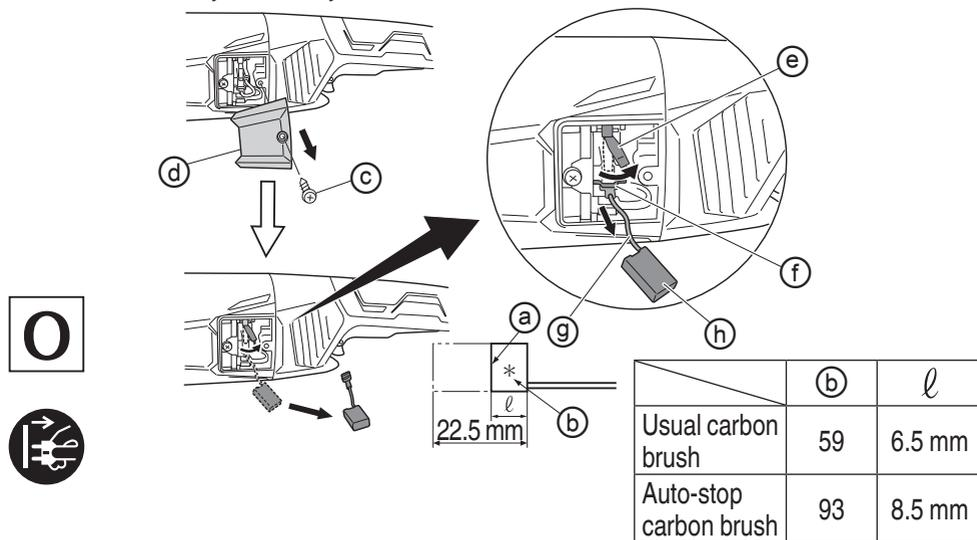

Fig. 7
3. Inspecting the carbon brushes (**Fig. 7**)
When an auto-stop carbon brush is equipped, the motor will stop automatically. At that time, replace both carbon brushes with new ones which have the same carbon brush Numbers (b) shown in the **Fig. 7**. In addition, always keep carbon brushes clean and ensure that they slide freely within the brush holders.
4. Replacing carbon brushes (**Fig. 7**)